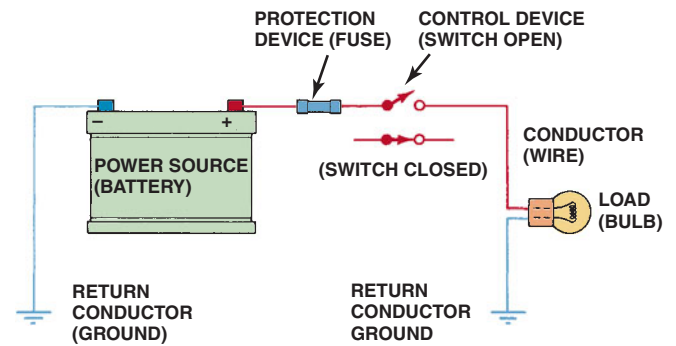

FIGURE 4-6 A fuse or circuit breaker opens the circuit to prevent possible overheating damage in the event of a short circuit.
6. It may or may not blow a fuse. ● SEE FIGURE 4-6.